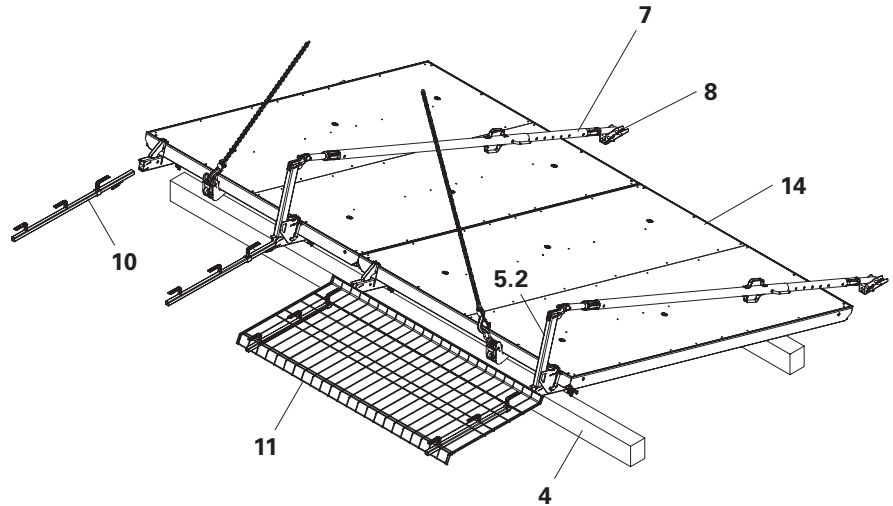
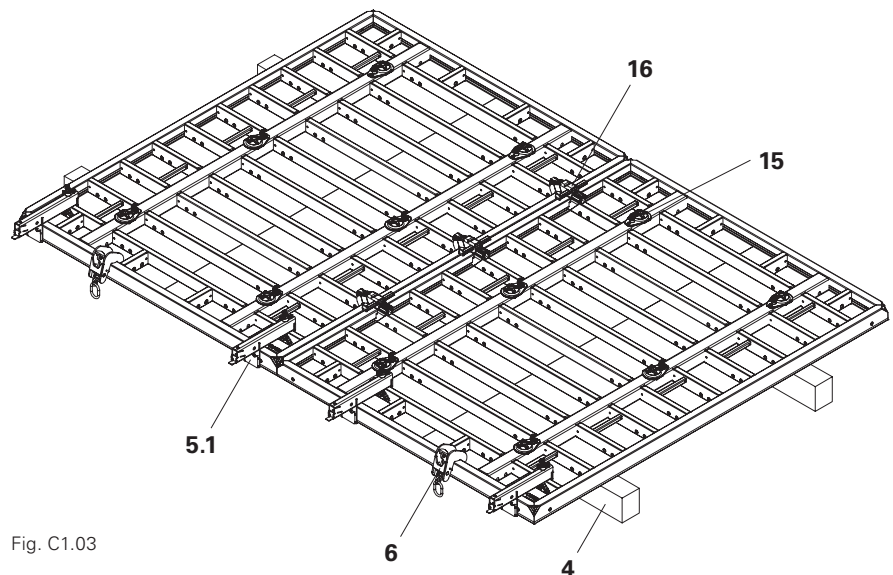

Fig. C1.02
Fig. C1.03
1. Set aside the formwork element (14) and carefully tip back.
2. Lower formwork element (14) to approx. 90 cm. Unhook the Side Mesh Barrier PMB S 260 (11) and remove the Guardrail Posts MXK (10).
3. Rest formwork element (14) on square timbers 20/16 cm (4).
- (Fig. C1.02)
1. Remove the Push-Pull Prop RS (7).
2. Remove Base Plate-3 f. RS 210-1400 (8) from the Push-Pull Prop RS (7).
4. Turn the formwork unit (14) onto the formlining side and support with square timbers 20/16 (4).
5. Remove Lifting Hook MX 1.5t (6), Wingnut MX15 (15) and, if necessary, the Alignment Coupler BFD (16).
- (Fig. C1.03)